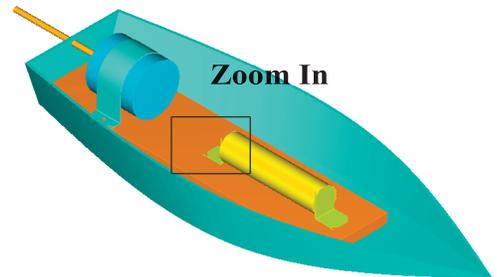

Fig. 41
Step 1. Zoom-in on the corner of the back L-bracket. Use **F1** and make a selection window around the back L-bracket, **Fig. 41**.